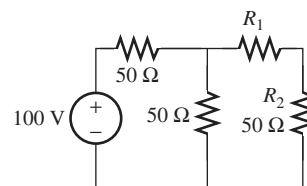

FIGURE P3.73 Circuit for Problem 3.73.
3.73 (B) Find the resistance R_1 in Figure P3.73 to transfer maximum power to R_2 .